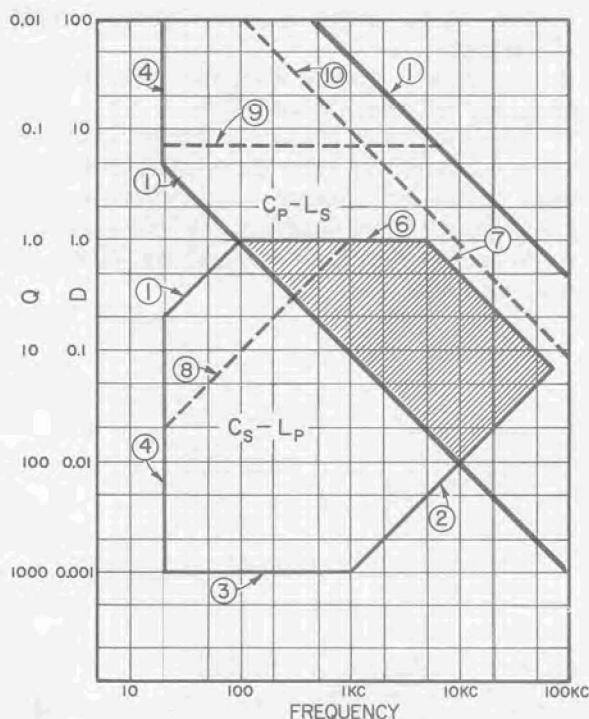

Figure 1. C and L accuracy ranges as a function of D and Q frequency.
Figure 1 is a modification of Figure 14 in the instruction manual for the bridge. Up to 20 kc, the numbered lines show the limits of D and Q within which the basic 1% C and L accuracy is possible. Above 20 kc, the lines set forth the DQ ranges over which the accuracies given in this article apply. The various numbered lines are:
At frequencies above 20 kc, limits other than those shown in Figure 1 restrict the accuracy attainable with the bridge. We can state these limits in terms of a percent error, which must be added to the basic one-percent accuracy of the bridge. The added error introduced above 20 kc is *always negative*, and the net effect of the two errors will probably be negative. This is shown in the following table of C_p - L_s accuracy at CRL dial settings between 0.4 and 4.
* below line 10 in Figure 1.
Above line 10 in Figure 1, a further 1% should be added to the *plus* net accuracy limit.